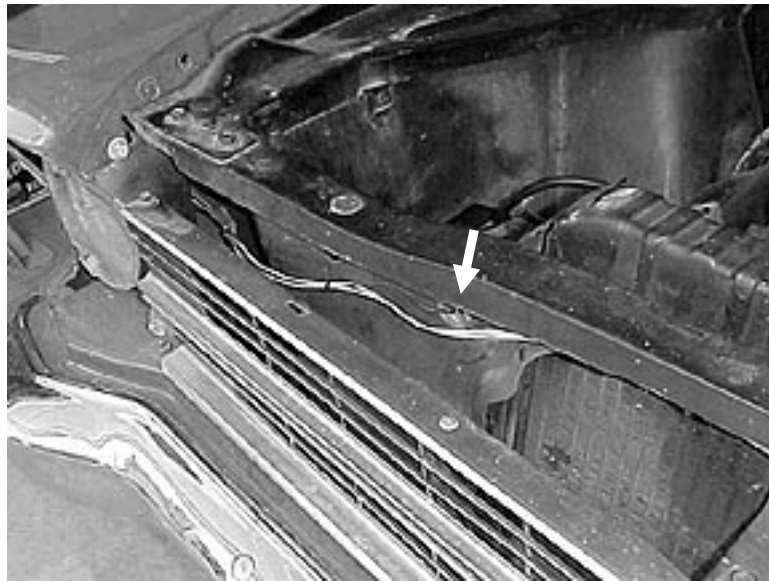

Figure 8.19 Passenger Side Headlight Wire Routing
- 8.4.6 On the Passenger-side of the core support you will find a hole (see arrow - Figure 8.19) in which you will route the park/turn signal wires through. Once you have routed the wires back through the core support, then route them down the side of the radiator to the park/turn signal light and connect. Route the headlight wires and connect.